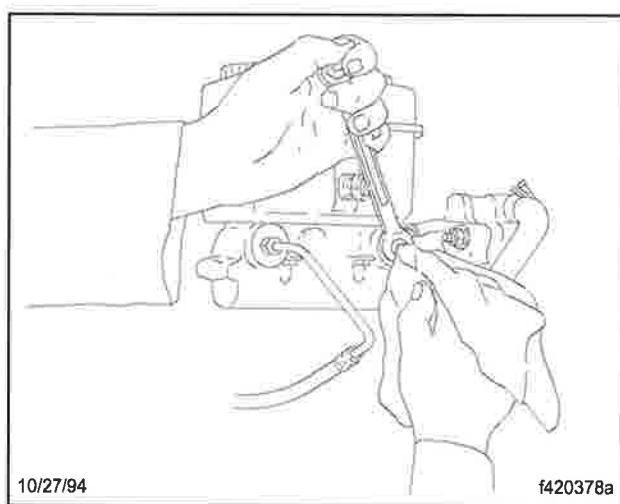

Fig. 17, Loosening the Fitting at the Rear Outlet Port
- 1.1 Using a wrench and a rag to absorb leaking brake fluid, loosen the fitting at the rear outlet port on the master cylinder. See **Fig. 17**. Loosen the fitting about one full turn.